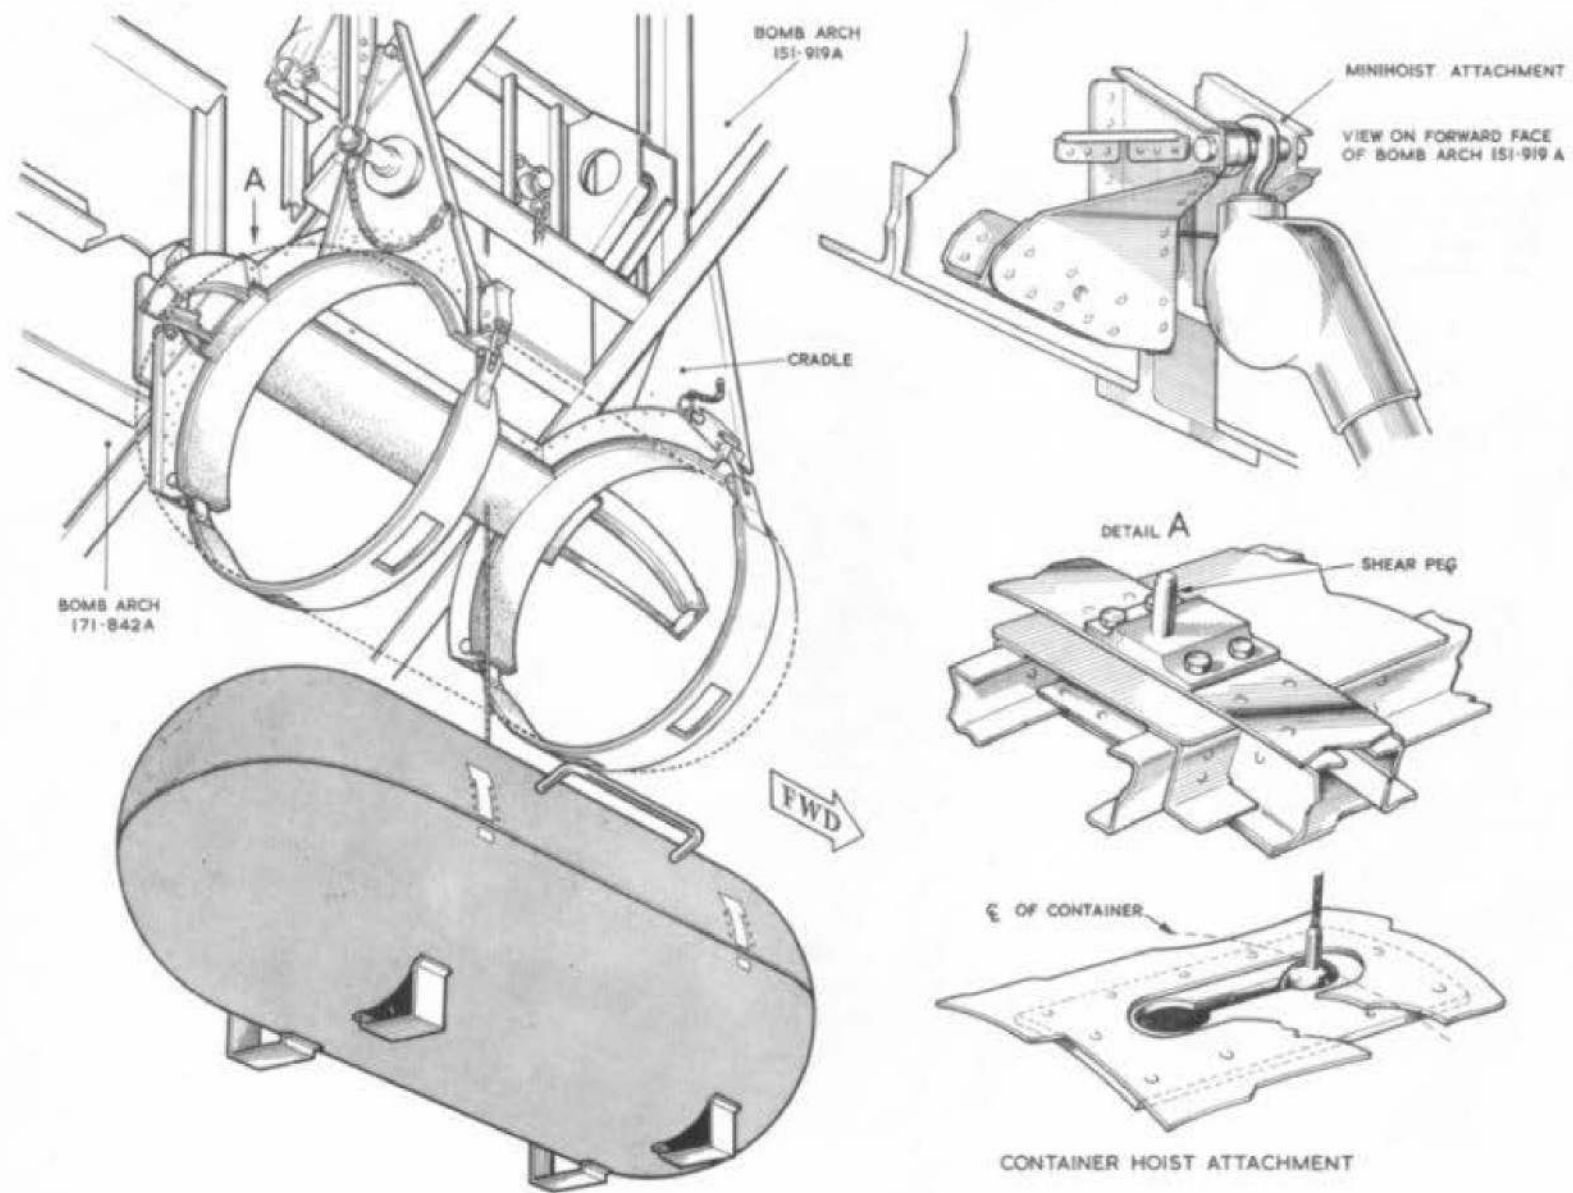

Fig. 2. Fitting Type B container.
30. Fitting the Type B container and carrier to the aircraft attachment points is illustrated in fig.2 and the procedure is as follows:-